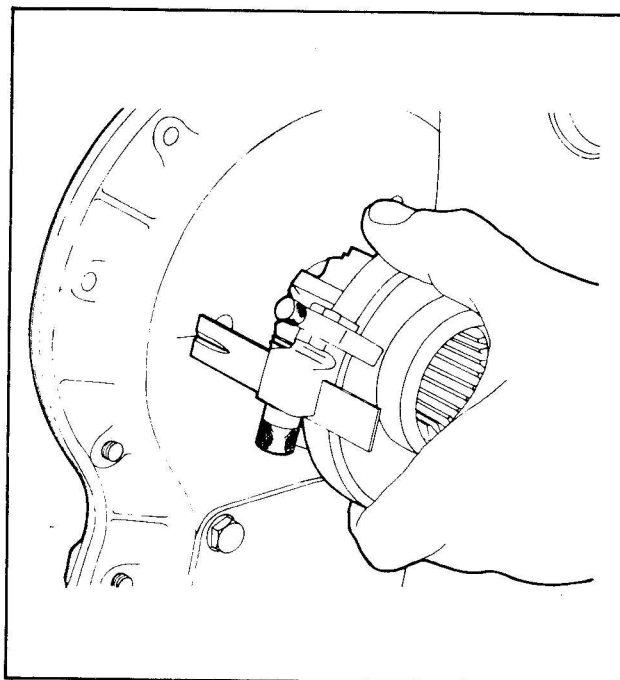

Fig. 16
5. Release the bracket locking screw (4) and set bracket so that the chamfered edge is in line with the relevant engine checking angle.
9. Take up backlash by turning tool against normal direction of rotation (shown on pump nameplate) and mark the scribed line on the rear of the timing case to coincide with the centre of the slot in the pointer (see Fig. 16).